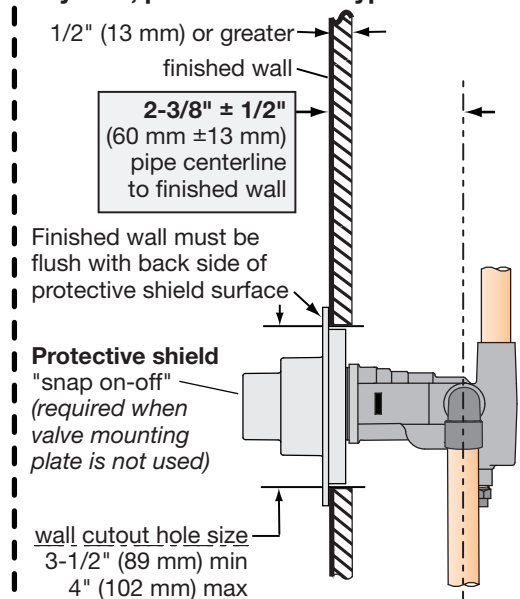

Figure 2 Mounting valve
- Consider whether to use mounting plate by reviewing figure 2 below.
- Reference figure 2 to determine whether shield is required.
Install through cutout hole in wall as specified in figure 2 below and dimension illustration on page 4.